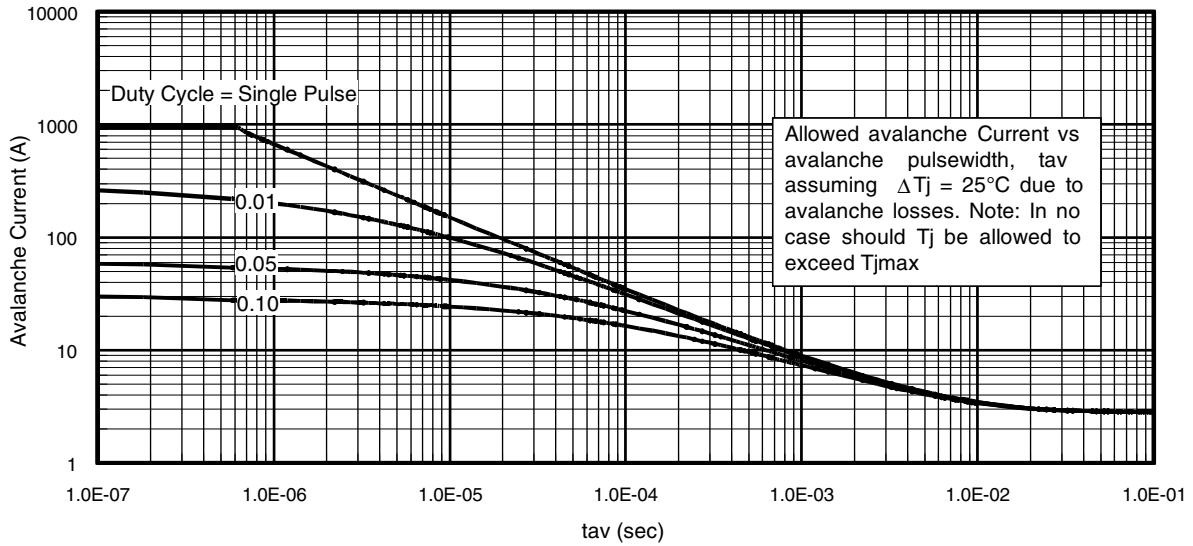

Fig 15. Typical Avalanche Current Vs.Pulsewidth
Notes on Repetitive Avalanche Curves , Figures 15, 16:
7. ΔT = Allowable rise in junction temperature, not to exceed T_{jmax} (assumed as $25^{\circ}C$ in Figure 15, 16).